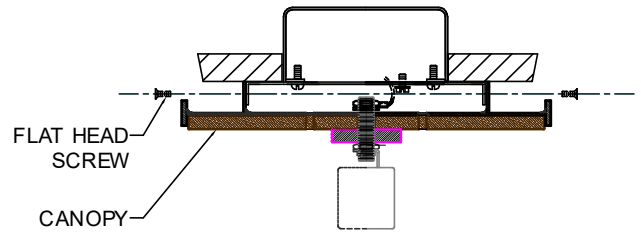

FIGURE-02
5. Attach the canopy to the mounting ring with wing and secure it with flathead screws (See Figure-02)